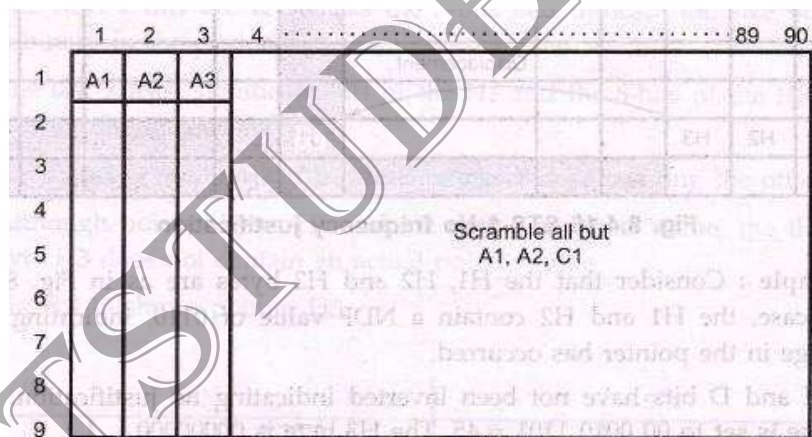

Fig. 8.4.18 Frame scrambled
- x The A1, A2 and C1 bytes are not scrambled and the scrambling process begins with the byte right after C1. This is shown in Fig.8.4.18. this applies to both SONET and SDH.